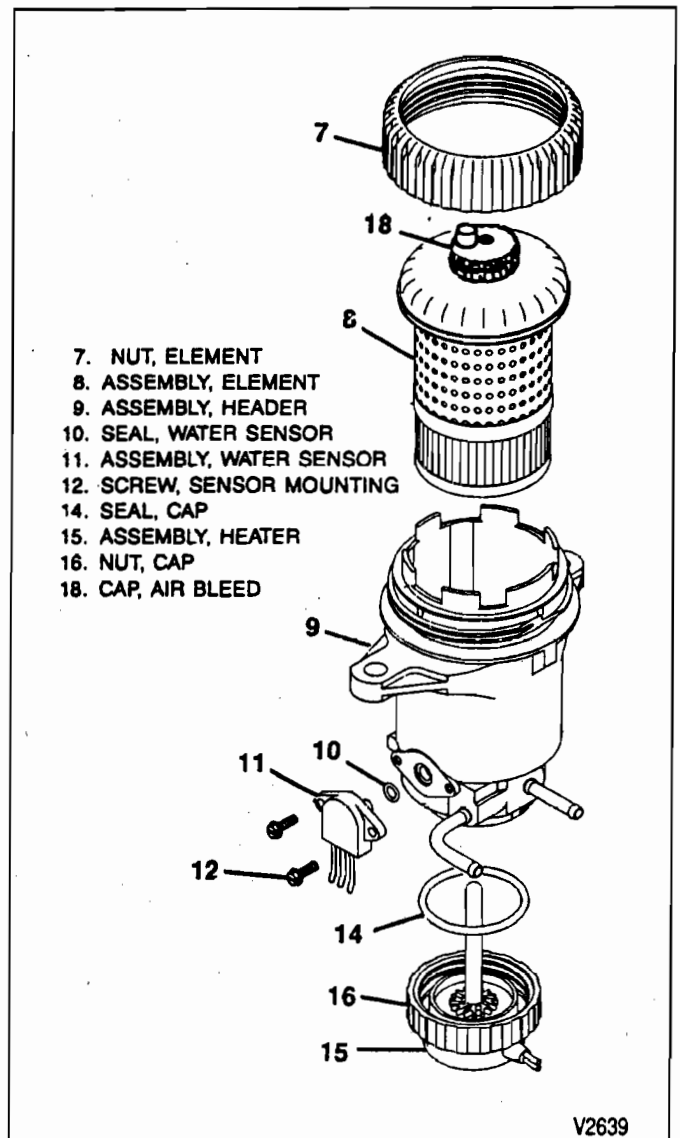

Figure 7-28 — Diesel Fuel Manager/Filter (6.5L)
6.5L MODEL FM 100 (See Figure 7-28)